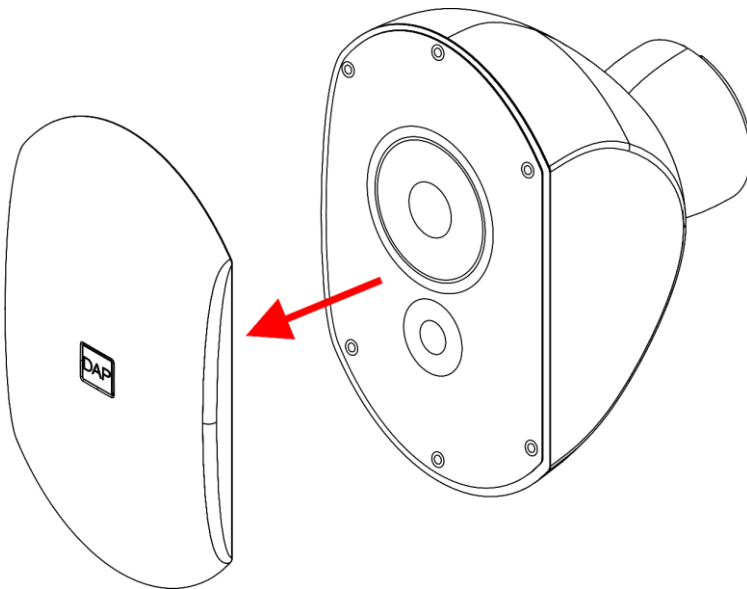

Fig. 23
- 01) Pry up the **speaker grill (01)** and remove it from the device (Fig. 23).